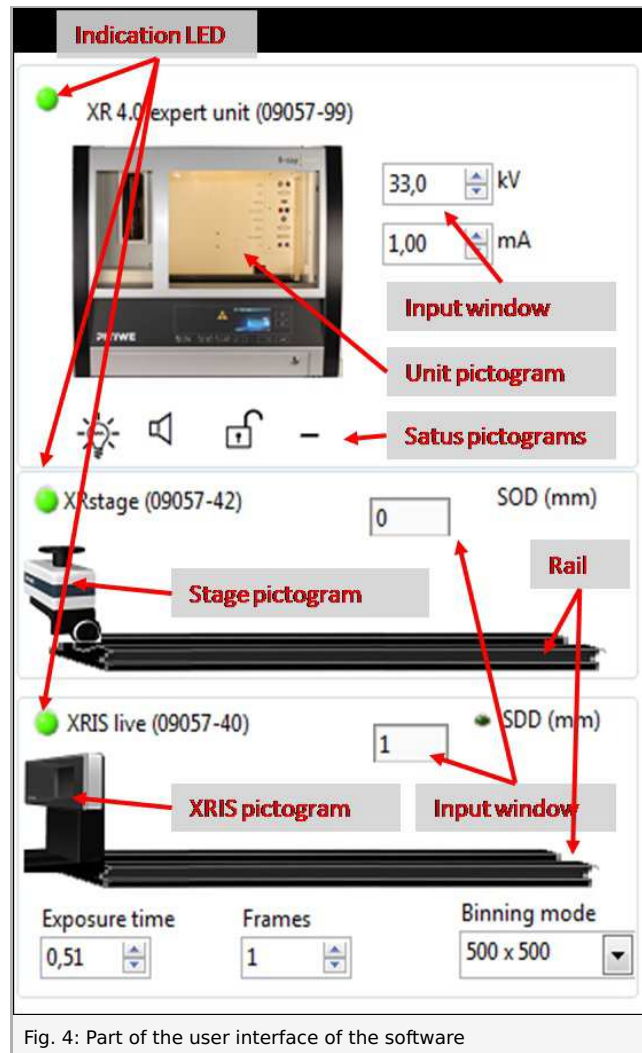

Fig. 4: Part of the user interface of the software
- Start the "measureCT" program. A virtual X-ray unit, rotation stage and Detector will be displayed on the screen. The green indication LED on the left of each components indicates that its presence has been detected (Fig. 4).
- You can change the High Voltage and current of the X-ray tube in the corresponding input windows or manually on the unit. (Fig. 4).
- When clicking on the unit pictogram additional information concerning the unit can be retrieved (Fig. 4).
the light or the X-rays (Fig. 4).
- The position of the digital detector can be adjusted to its real position either by moving the XRIS pictogram or by filling in the correct value in the input window (Fig. 4).